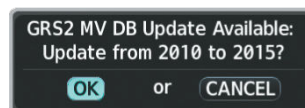

Figure B-12 GRS2 Magnetic Field Variation Database Update Prompt
- 2) When the upload is complete, the prompt for the next GRS upload is displayed, as seen in Figure B-12.